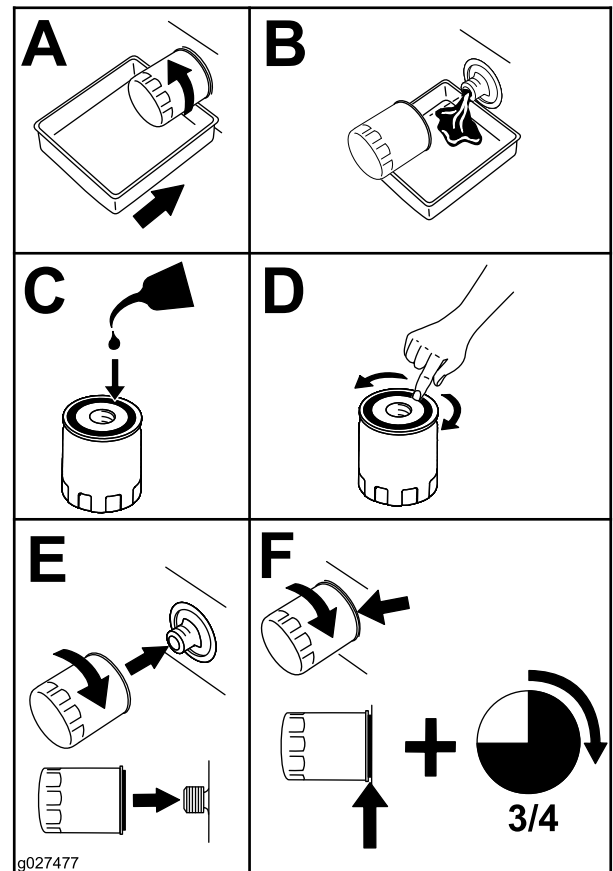

Figure 54
2. Change the engine oil filter (Figure 54).